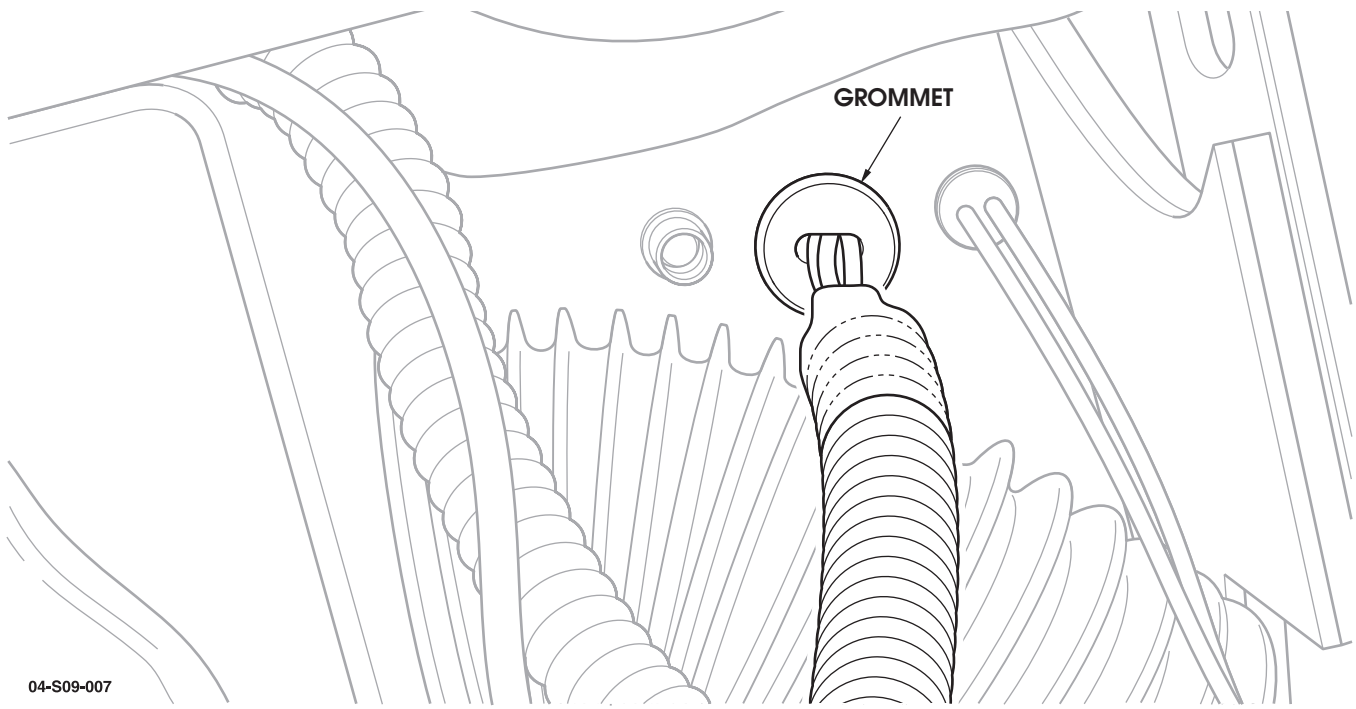

Figure 8: Grommet from the passenger compartment side.
21. Work the two axle connectors on the main harness through the hole in the cowl from the inside until the molded grommet is near the hole. Fold the grommet in half and push it through the cowl then install it in the cowl from the engine compartment side (See Figures 8 & 9).